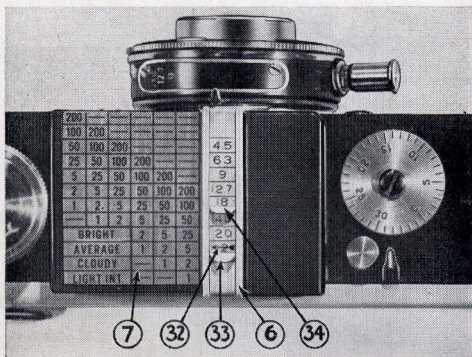

FIGURE 4
3. When the calculator is in correct position hold the camera as it appears in the accompanying illustration (figure 4.)
4. Set the arrow (32) until it is in the center of the horizontal column on plate (7) which corresponds to the general light condition. In the illustrated case the arrow (12) is in correct location for an average bright day.